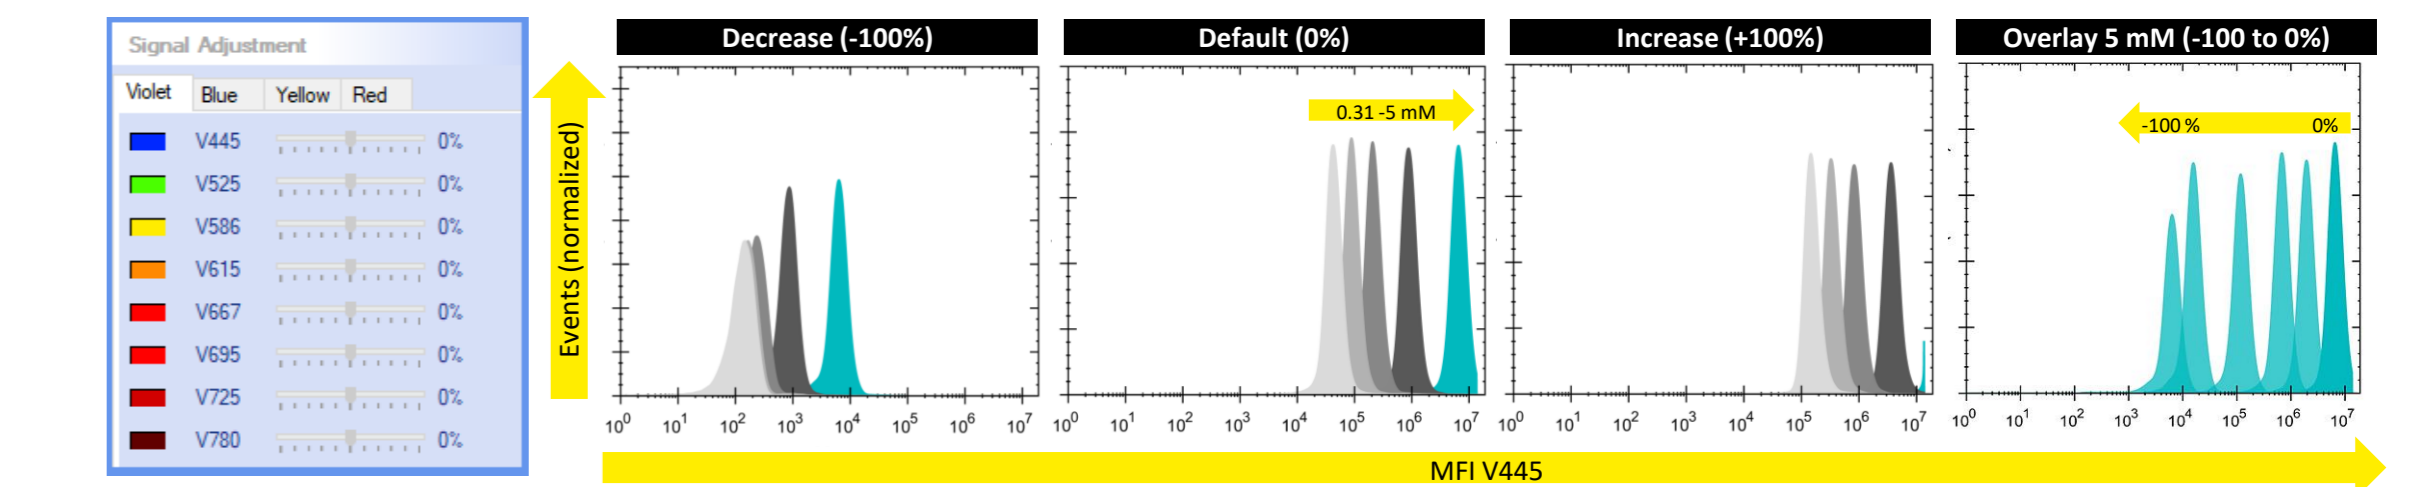

Figure 3: Example of effect of signal adjustment on MFI signal from iQue[®] Cell Proliferation and Encoding Dye.
- The iQue[®] 5 Platform is fitted with individual detectors for each channel and therefore supports a high level of signal gain control. Gain is adjusted within the software using a sliding scale between -100% to +100% (default at 0%, Figure 3).
- To showcase this, Jurkat cells were stained with iQue[®] Cell Proliferation and Encoding Dye V/Blue at various concentrations (0.31-5 mM) to provide five distinct intensities. Data was collected across a range of gain settings by adjusting the V445 fluorescence channel in 20% intervals from -100 to 100% and is shown as mean fluorescence intensity (MFI, Figure 3).